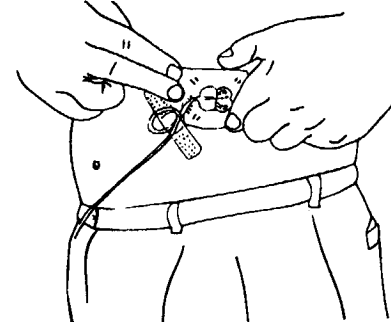

FIGURE 11: Secure with Transparent Dressing and Tape
- Step 10. Secure the Cable/Sensor Connector to the skin with a sterile transparent moisture permeable dressing such as Polyskin®, OpSite IV 3000® or Tegaderm®. If desired, make a safety loop with the Cable and secure it with a separate piece of tape or bandage (Figure 11).